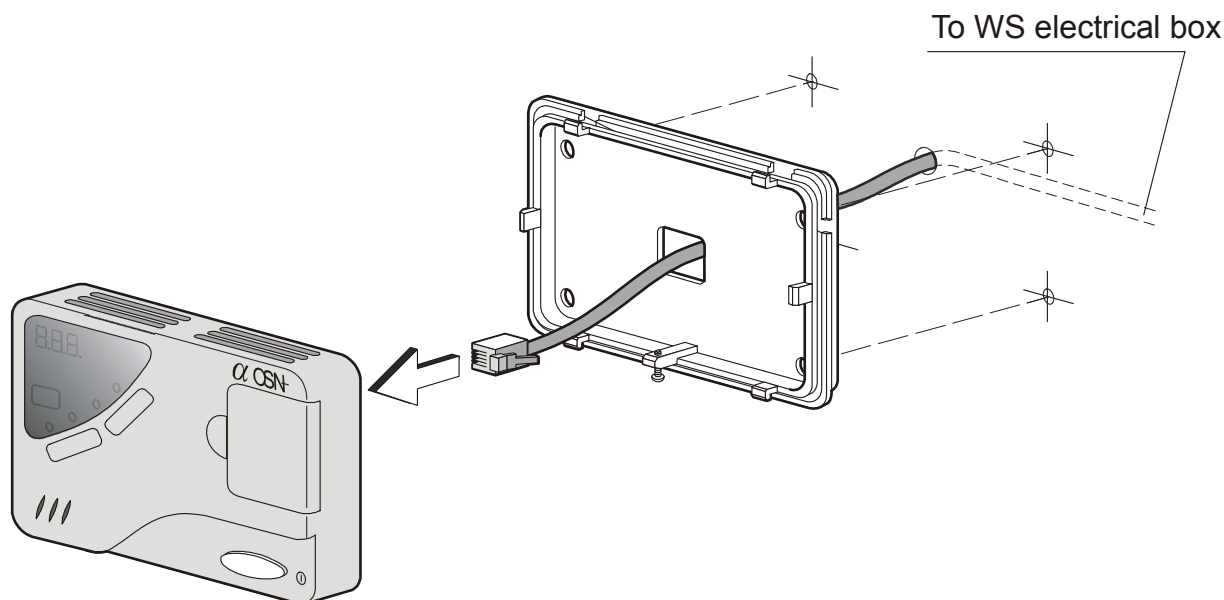

Fig. 8-1
8.1 Installing the Thermostat (Fig. 8-1)